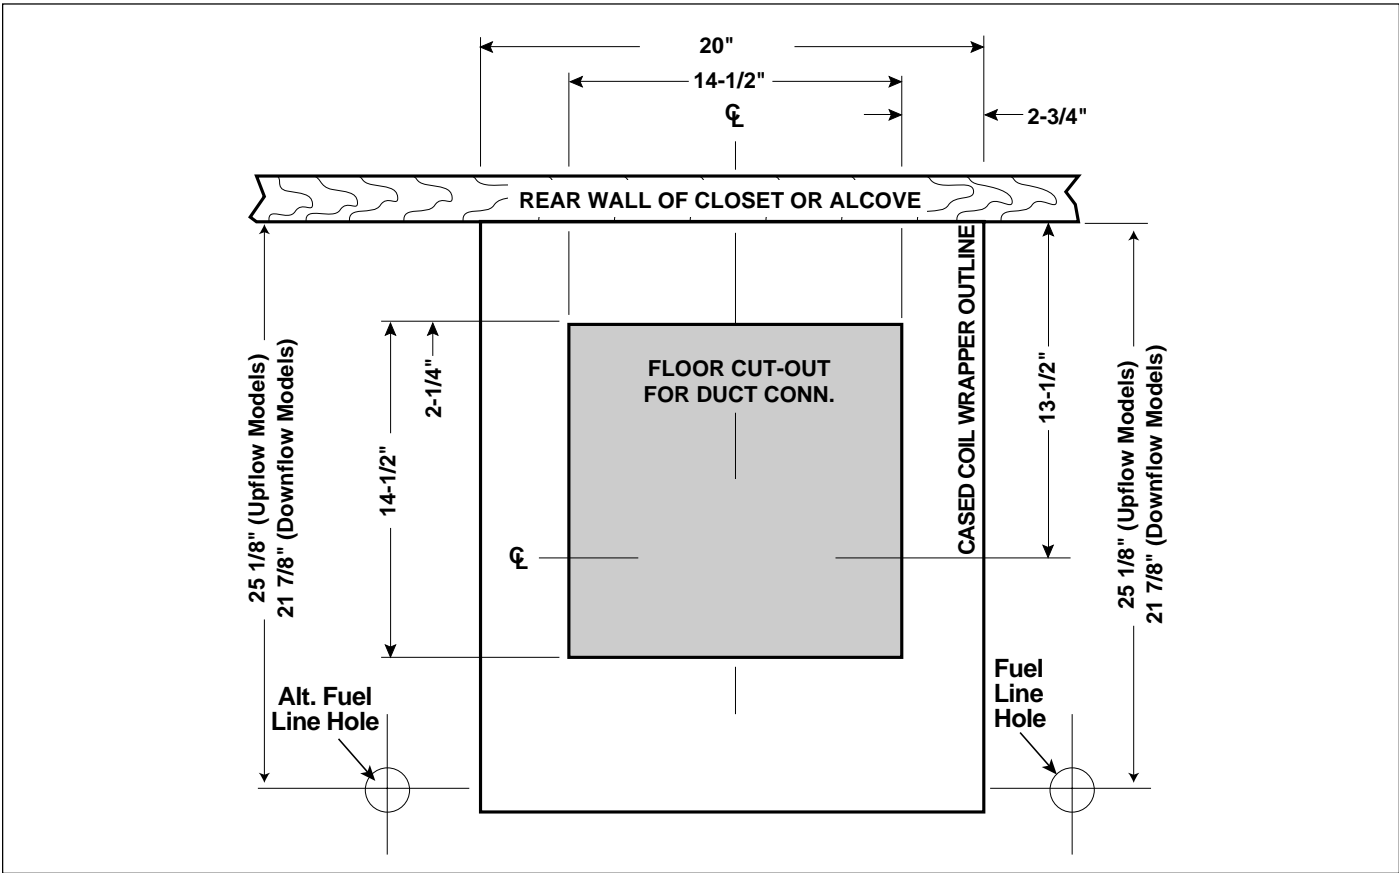

Figure 7. Cut-Out Locations
- Locate center of the floor opening, measured 10" from the rear wall, and mark cut-out measuring approximately 14-1/2" by 14-1/2" ($\pm 1"$) for model duct connector used (refer to Figures 7 & 8).